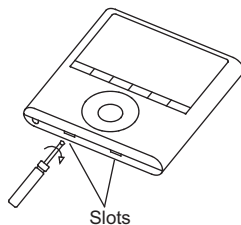

Fig 3-2
- Insert a slot screwdriver into the slots in the lower part of the wire controller (2 places), and remove the upper part of the wire controller. (Fig.3-2)